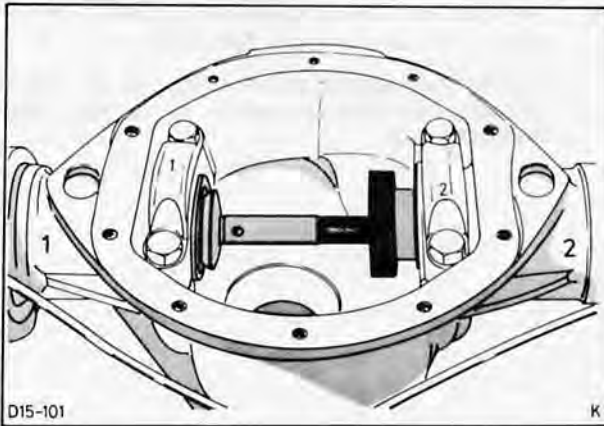

Fig. 70. Gauge bar located in rear axle casing
- Insert gauge bar with the bearings to be installed in rear axle casing, Fig. 70. Fit the bearing caps (numbers match) and secure to specified torque, slacken again and then do up finger-tight.